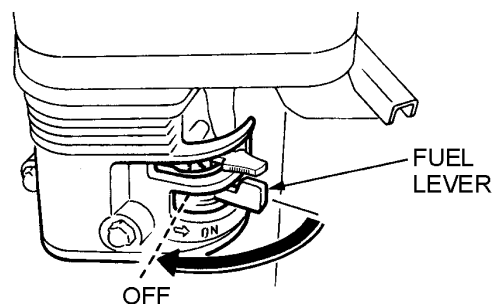

Figure 23. Fuel Valve Lever (OFF)
- Place the fuel shut-off lever (Figure 23) in the **"OFF"** position.